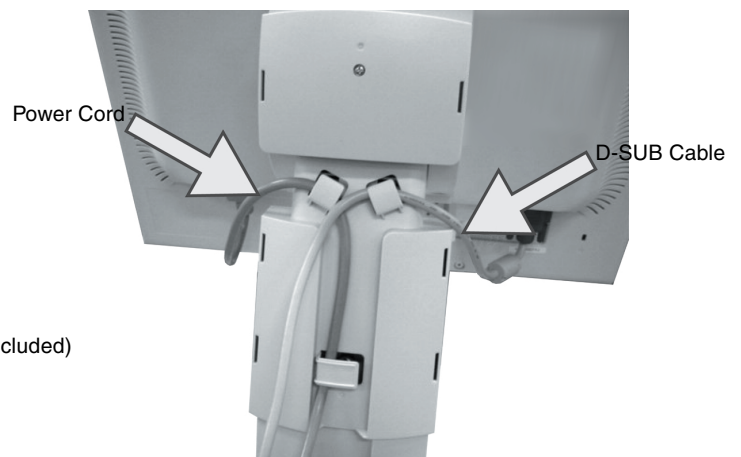

Figure C.2
5. Place power cord into the specific hooks indicated in **Figure C.2**.
6. Place the D-Sub into the specific hooks indicated in **Figure C.2**.